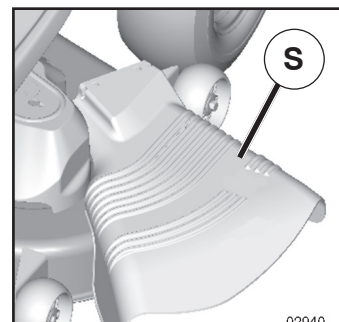

Fig. 22
CAUTION: Do not operate the mower without either the entire grass catcher, on mowers so equipped, or the deflector shield (S) in place (See Fig. 22).